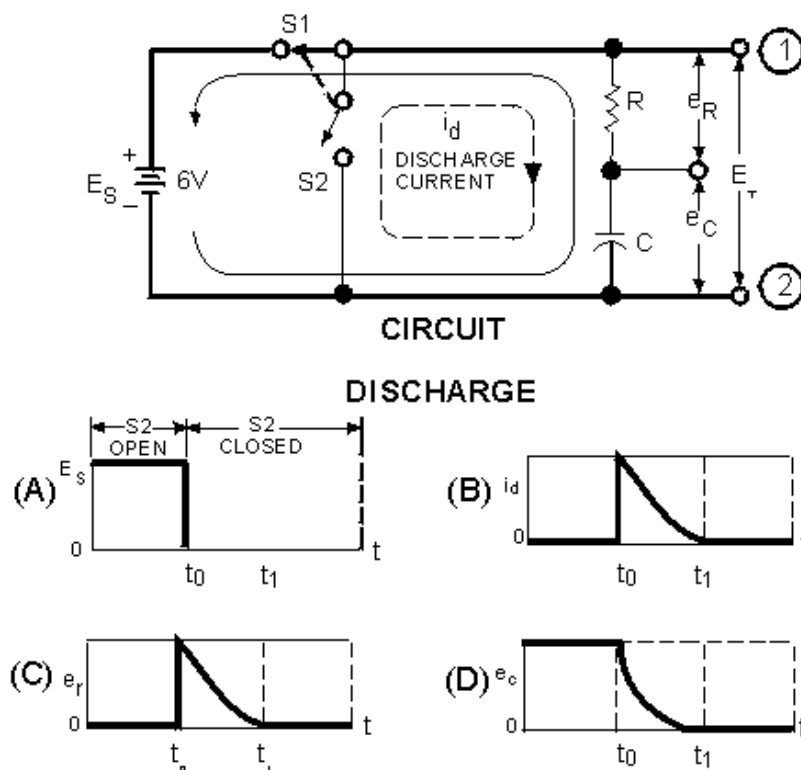

Figure 3-10.—Discharge of an RC Series circuit.
In figure 3-10 at time t_0 , the capacitor is fully charged. When S1 is open and S2 closes, the capacitor discharge cycle starts. At the first instant, circuit voltage attempts to go from source potential (6 volts) to zero volts, as shown in graph (A). Remember, though, the capacitor during the charge cycle has stored energy in an electrostatic field.
By comparing graph (A) with graph (D) of figure 3-10, you can see the effect that capacitance has on a change in voltage. If the circuit had not contained a capacitor, the voltage would have ceased at the instant S1 was opened at time t_0 . Because the capacitor is in the circuit, voltage is applied to the circuit until the capacitor has discharged completely at t_1 . The effect of capacitance has been to oppose this change in voltage.